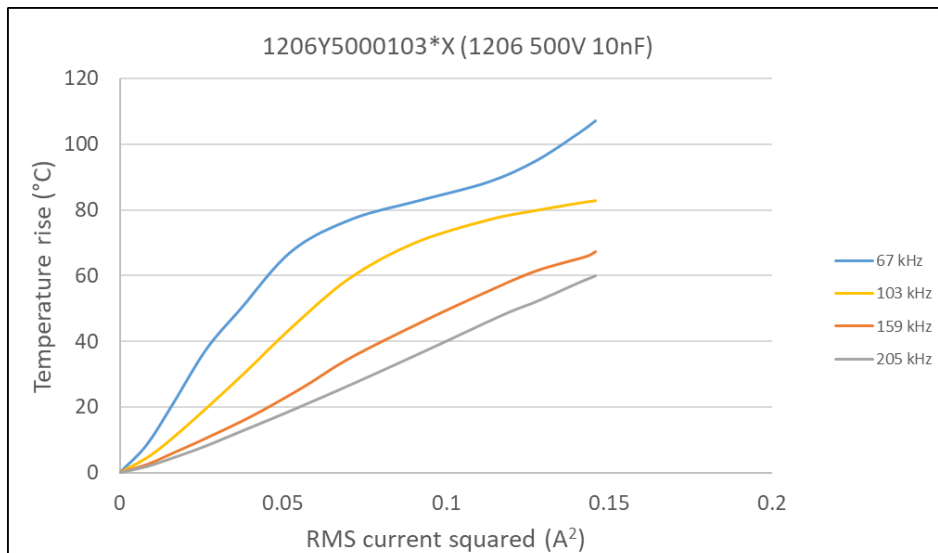

Figure 3 – Temperature rise vs current squared for the same X7R capacitor at different frequencies
- Above a certain level of ΔT , the gradient of each curve decreases. This occurs at approximately 70°C for the capacitor in Figure 3.
- At an even higher level of ΔT , the gradient begins to return toward its initial value, as illustrated by the 67kHz curve. For the capacitor in Figure 3, this happens when ΔT is approximately 90°C.
Figure 3 also shows that frequency affects temperature rise.